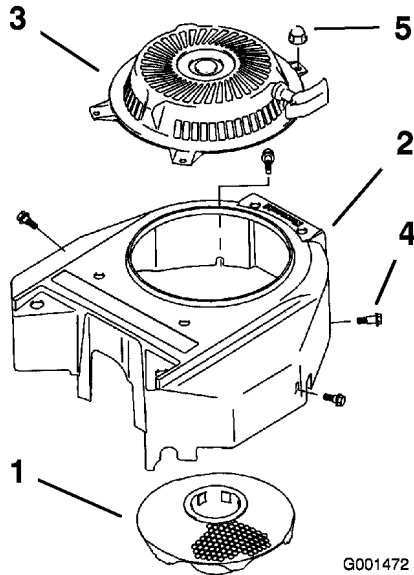

Figure 43
3. Remove the air intake screen, recoil starter and fan housing (Figure 43).
5. Install air intake screen, recoil starter and fan housing (Figure 43).